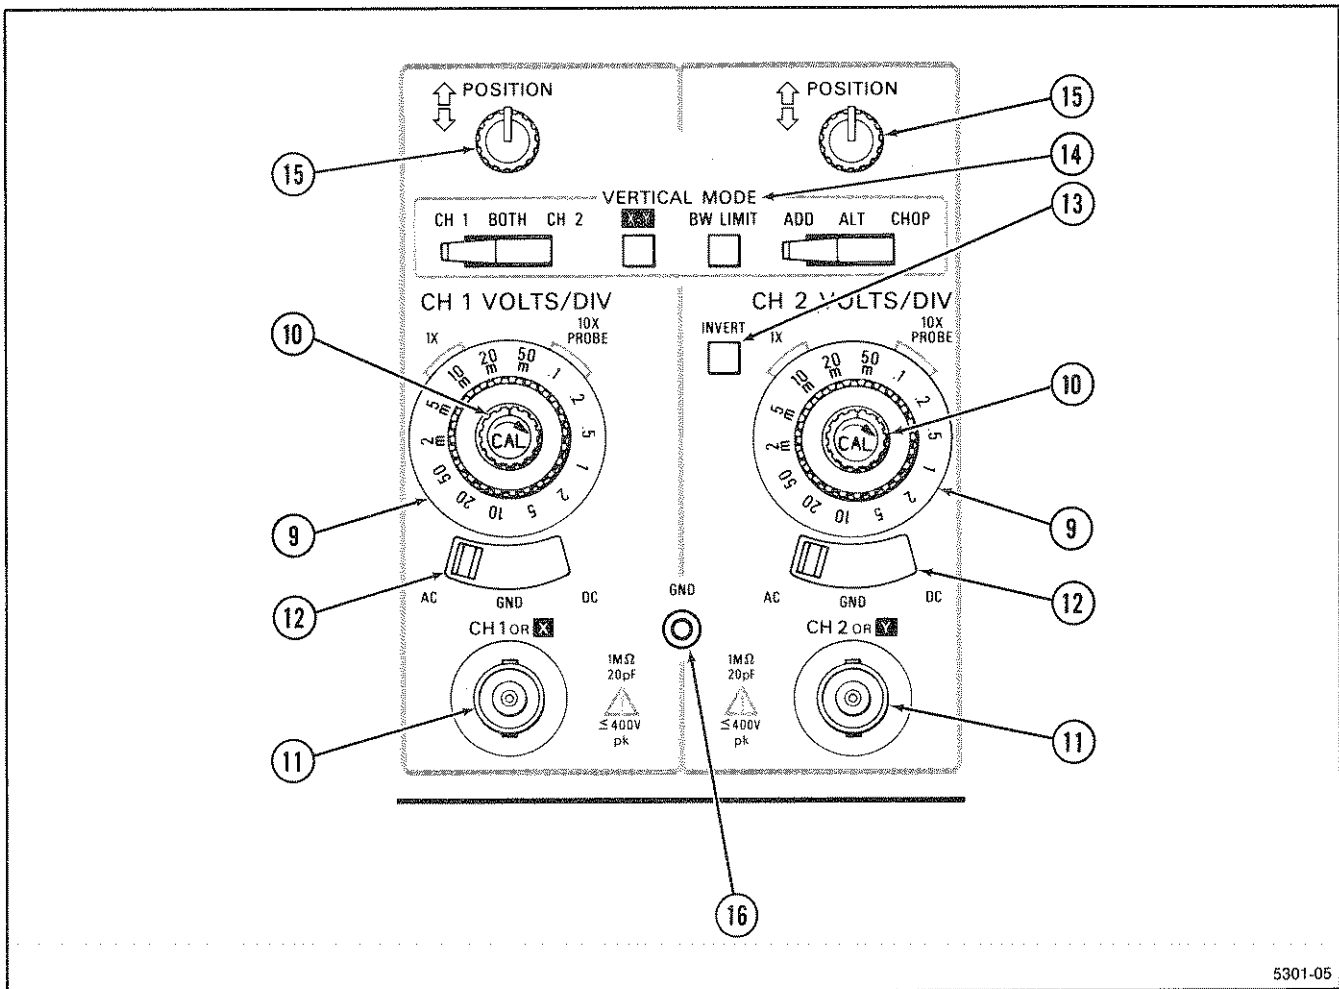

Figure 3-2. Vertical controls and connectors.
See Figure 3-2 for the location of items 9 through 16.
- ⑨ **VOLTS/DIV Switches**—Select the vertical channel deflection factors from 2 mV to 5 V per division in a 1-2-5 sequence.
- ⑩ **Variable VOLTS/DIV Controls**—Provide continuously variable deflection factors between calibrated positions of the VOLTS/DIV controls. The VOLTS/DIV sensitivity may be reduced by up to at least 2.5 times at the fully counterclockwise rotation of the variable knob. A detent position at full clockwise rotation indicates the calibrated VOLTS/DIV position of the variable knob.